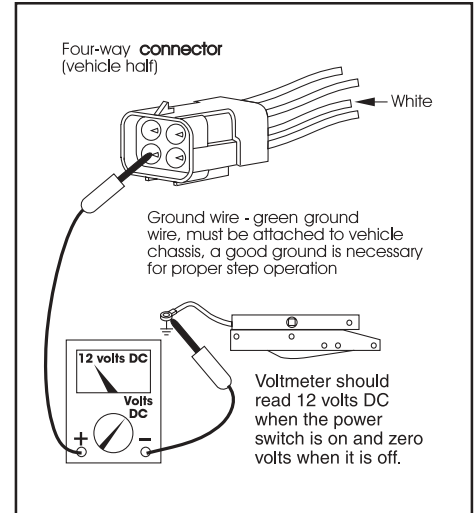

Figure 7 - Checking the power switch
13. To check the power switch, connect a voltmeter between the white wire from the 4-way connector (vehicle half) and the terminal at the end of the control unit's green ground wire (see Figure 7). The reading should be a minimum of 12 volts DC (the